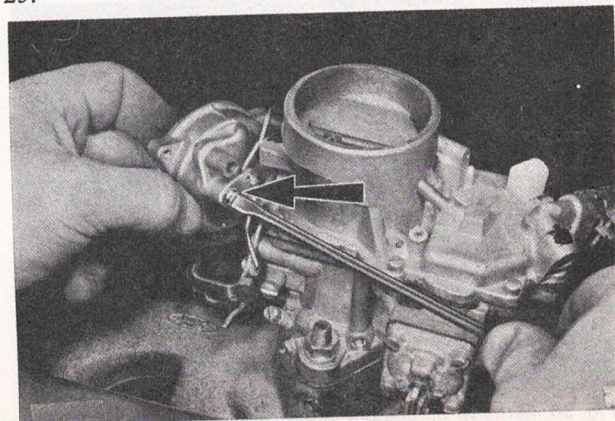

Fig. 28. Disconnecting choke linkage from auto-choke assembly.
4. Remove a single screw securing choke linkage to operating spindle and detach assembly, Fig. 28.